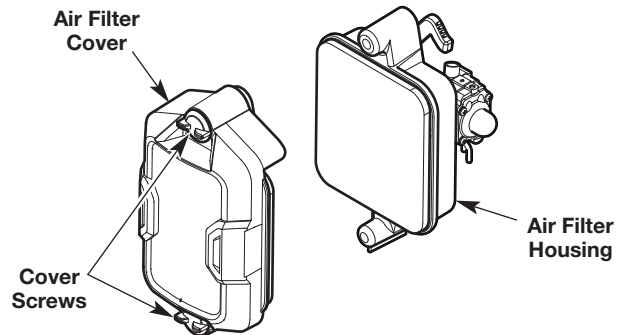

Fig. 14
- Turn the cover screws counterclockwise to loosen the air filter cover (Fig. 14).
- Slide the air filter cover off of the air filter housing (Fig. 14).